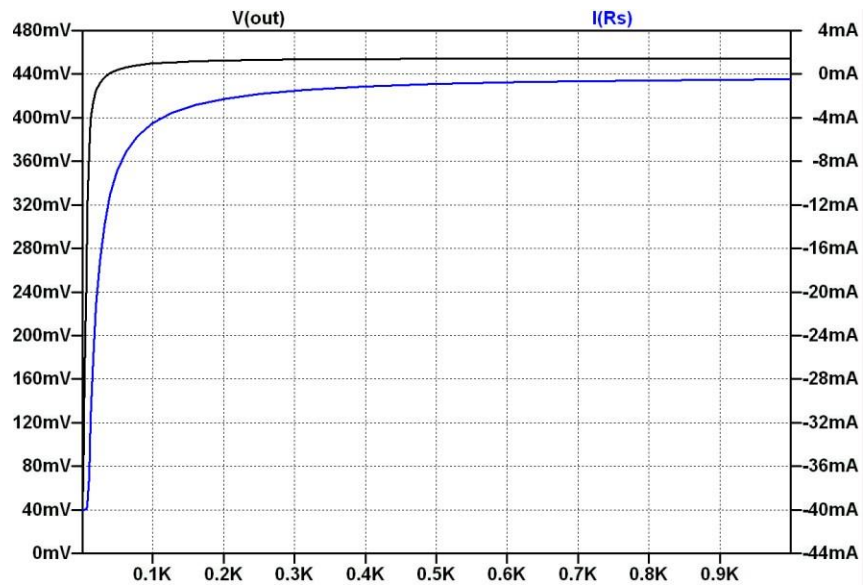

Figure 47: Simulation results of V_{out} and $I(R_s)$ vs R_{load} .
- Plot $V(\text{out})$ and $I(R_s)$. You should see Figure 47.